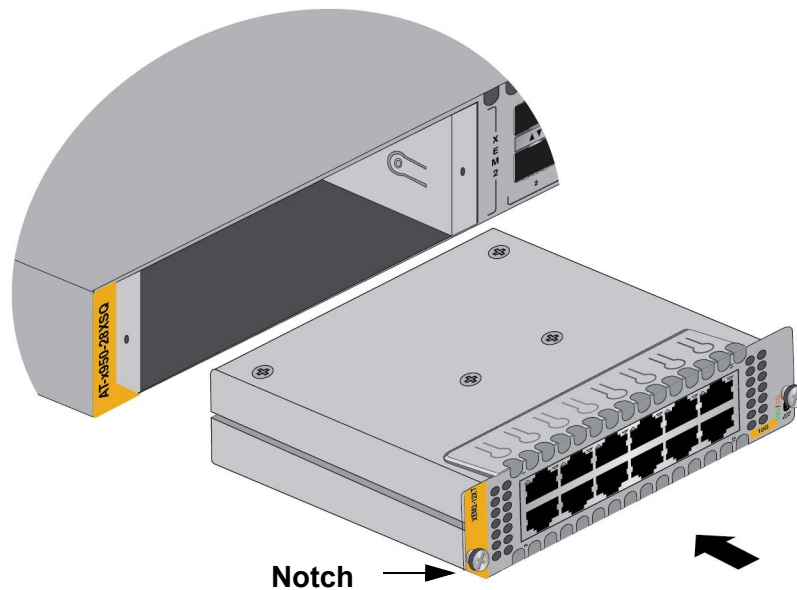

Figure 76. Sliding the XEM2 Line Card into the Slot
- Position the line card with the notch on the faceplate in the bottom left corner, as shown in Figure 76, and carefully slide it into the slot.